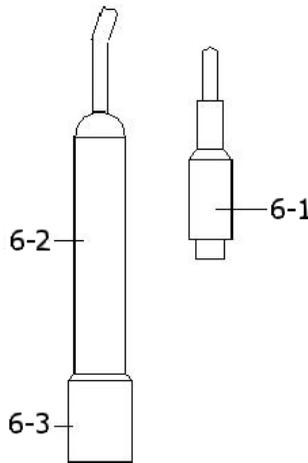

Fig. 3
- 1) Prepare the Conductivity Probe (optional, CDPB-03), install the " Probe Plug " (6-1, Fig. 3) into the " CD Socket " (3-15, Fig. 1).
- 3) Hold the " Probe Handle " (6-2, Fig. 3) by hand and let the " Sensing head " (6-3, Fig. 3) immersed wholly into the measured solution. Shake the probe to let the probe's internal air bubble drift out from the sensing head.
- 2) Install the " Probe Plug " (6-1, Fig. 3) into the " CD Socket " (3-15, Fig. 1).
- 4) Hold the " Probe Handle " (6-2, Fig. 3) by hand and let the " Sensing head " (6-3, Fig. 3) immersed wholly into the measured solution. Shake the probe to let the probe's internal air bubble drift out from the sensing head.